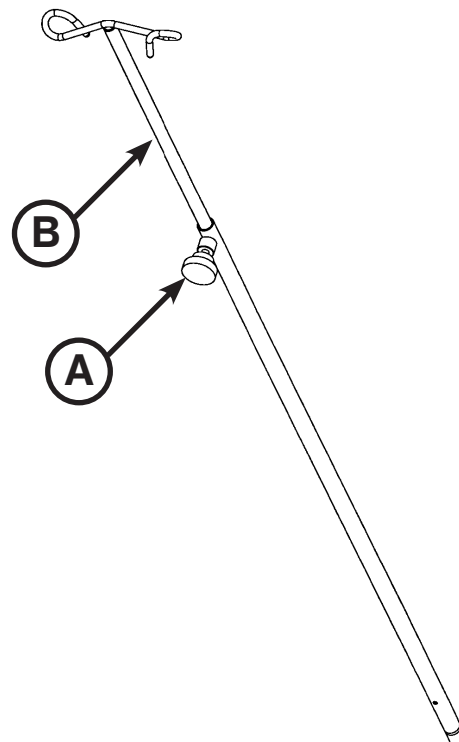

Figure 11.1: Removable I.V. Pole
2. To raise the height of the pole, turn the knob (A) counterclockwise and pull up on the telescoping portion (B) of the pole to raise it to the desired height as shown in Figure 11.1.
3. Turn the knob (A) clockwise to lock the telescoping portion in place as shown in Figure 11.1.